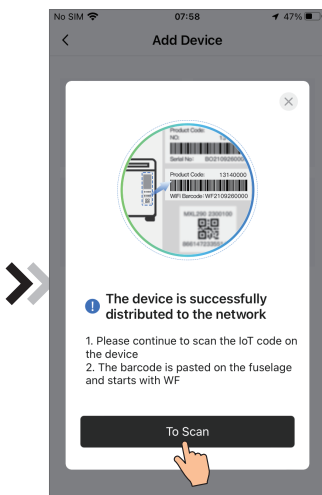

Fig.9 Bond device interface
4. Click "To Scan" (Fig.9) to allow the App to use the camera for scanning the WF code on the WIFI module (Fig.11.1), or click "Manual input" to enter the WF code (Fig.11.2).